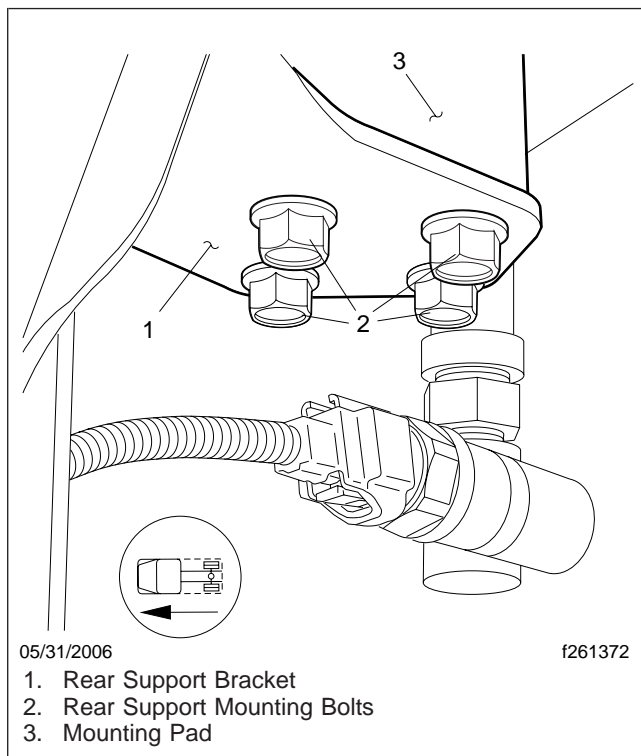

Fig. 12, Transmission Rear Support
8. Install the mounting bolts on the rear support bracket. Tighten them 96 to 125 lbf-ft (130 to 170 N·m). See Fig. 12.